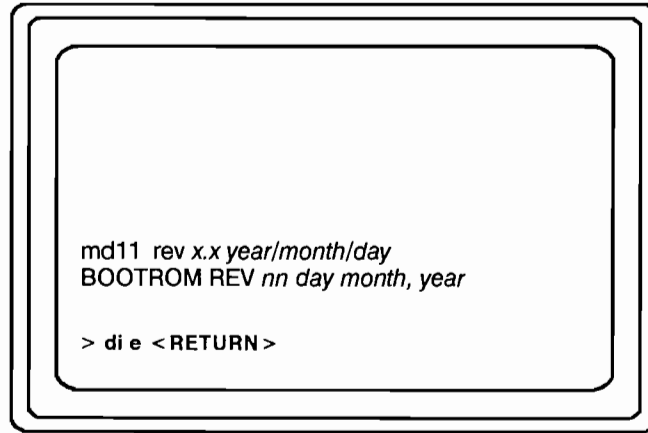

Figure 10-6. Requesting Access to the Partner System's Network
2. Enter the `di e` command to request access to the network on which the partner system resides (see Figure 10-6).